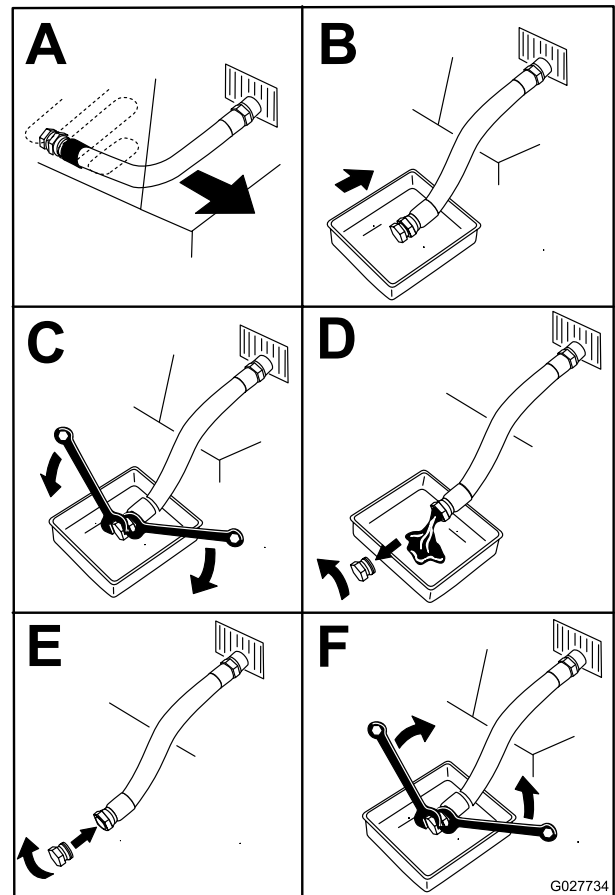

Figure 44
- Drain the oil from the engine (Figure 44).